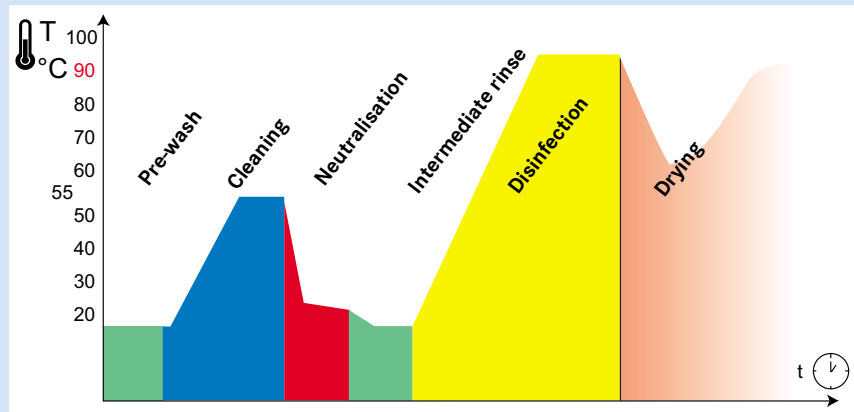

Fig. 1 Diagram of the program sequence of Vario TD-programme
* Should the Miele washer disinfectant be unavailable, please observe the parameters of the Vario TD-program sequence (see fig. 1)
2. Start the Vario TD-programme (for diagram of program sequence see fig. 1) including thermal disinfection.